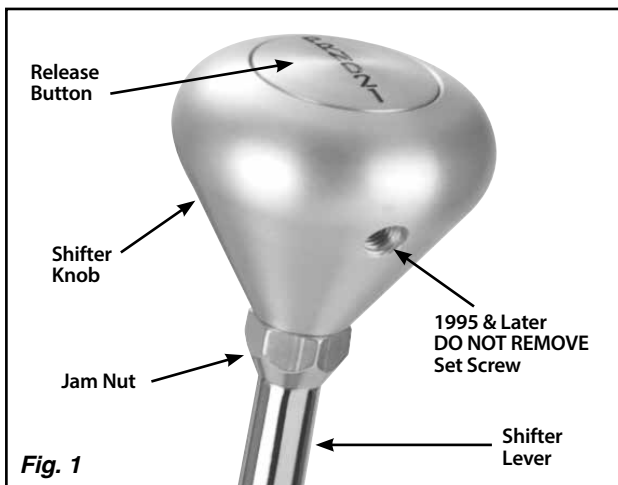

Fig. 1
Step 2: Loosen the jam nut below the shifter knob by turning it **clockwise**. **Fig. 1**